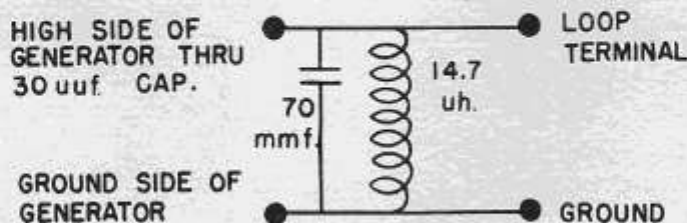

Fig. 21
2. Dummy Loop Antenna (Fig. 21) is used to place "Signal Web" antenna, when chassis is removed from cabinet.
8. The low impedance "Signal Web" antenna should remain connected, or, if the chassis is removed from cabinet, a dummy antenna should be connected in its place (See Fig. 21).